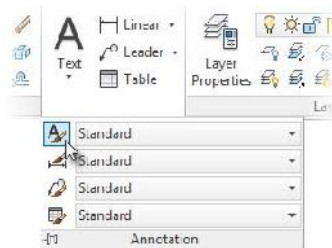

FIGURE 8.2 : Starting the STYLE command
2. On the Home tab ➤ expanded Annotation panel, click the Text Style button (see Figure 8.2), or enter **ST**↵ to start the STYLE command.